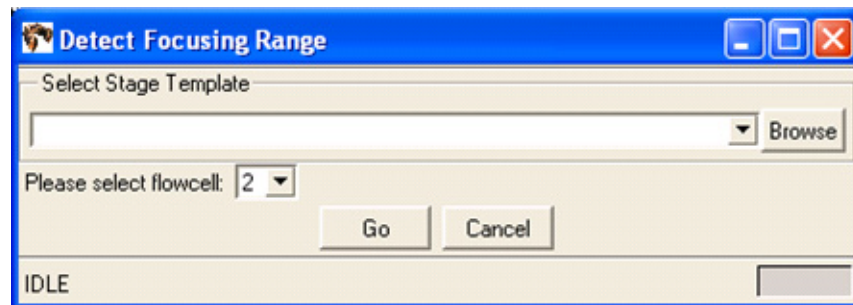
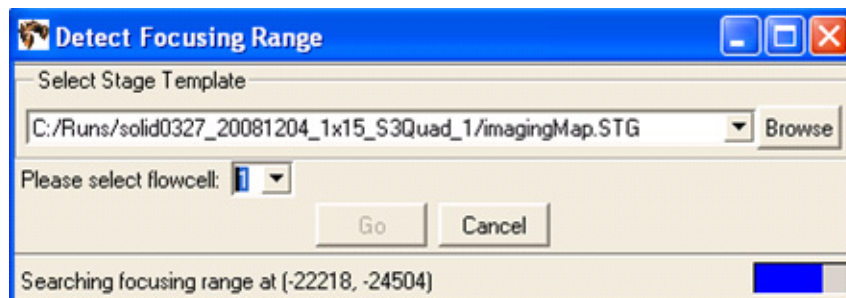

Figure 49 Detect Focusing Range dialog.
Figure 50 Detect Focusing Range Dialog while detection is in progress.
3. In the focusing range dialog, specify the stage template file by entering the name directly or by clicking the **Browse** button to navigate to a suitable one (see Figure 49). The stage template must match the slide in the target flowcell(s). If you created a run from the ICS, then select the file **imagingMap.STG** from the subdirectory in C:\Runs whose name matches the name of the run (for example, in Figure 50, C:\Runs\Solid0327\_20081209\_2\_Oct\_Test\imagingMap.STG is selected).
4. Select the flowcell using the drop-down menu, then press **Go**. The Imager works for several minutes while it determines the range. The blue progress bar indicates how close it is to completion (see Figure 50). You can also click **Cancel** so that the Imager aborts the ranging operation.